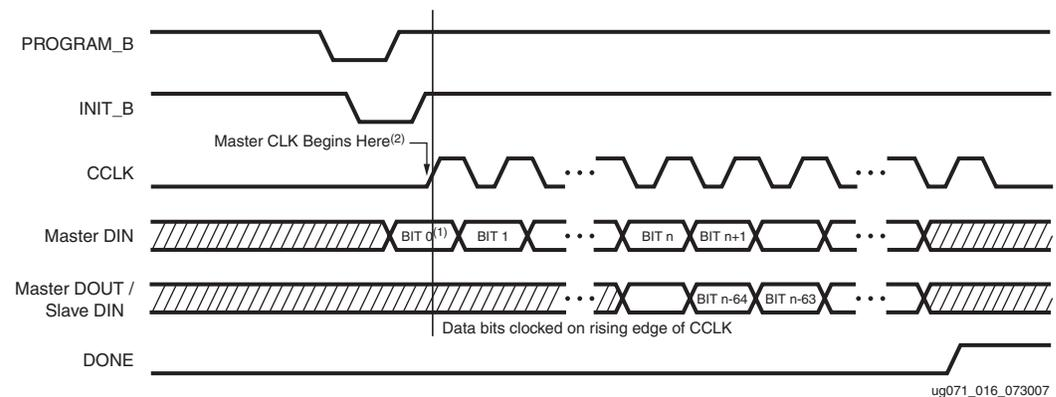

Figure 2-2: Serial Daisy Chain Configuration Cloning Sequence
Figure 2-2 shows how configuration data are clocked into Virtex-4 devices in Slave serial and Master serial modes.
Notes relevant to Figure 2-2:
1. In Figure 2-2, bit 0 represents the MSB of the first byte. For example, if the first byte is 0xAA (1010_1010), bit 0=1, bit 1=0, bit 2=1, etc.